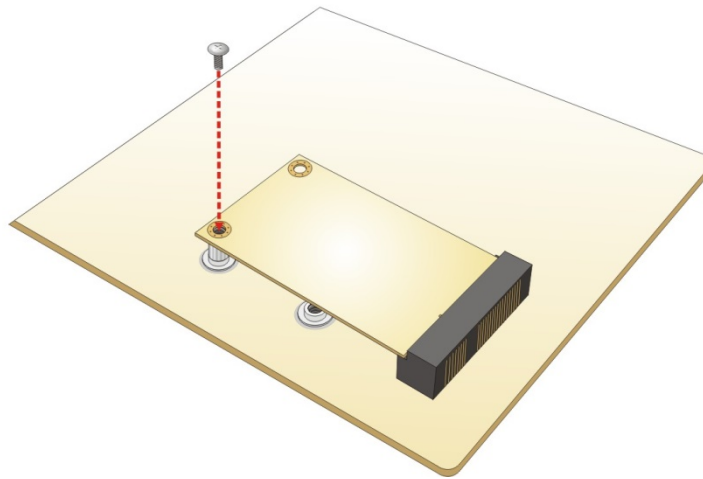

Figure 3-14: Securing the Full-size PCIe Mini Card
Step 6: Secure the full-size PCIe Mini card with the retention screw previously removed (**Figure 3-14**).